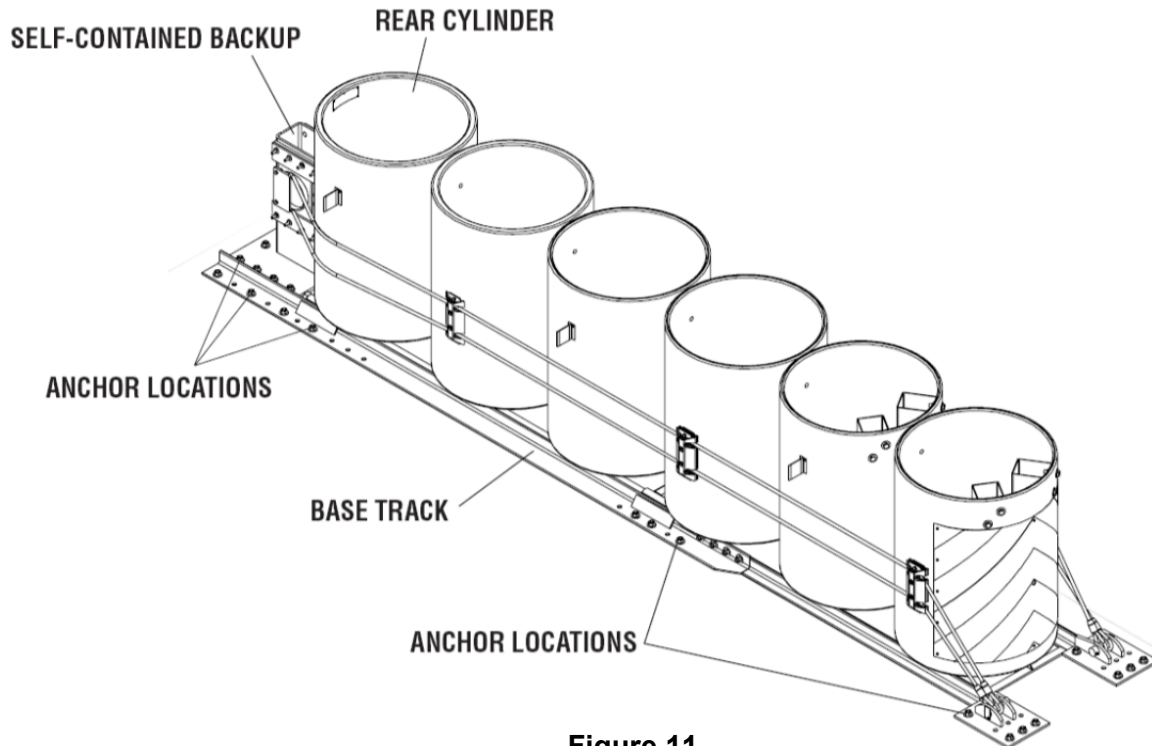

Figure 11
Use the holes in the base track as a template to locate and drill fifty-six (56) holes, 22 mm [7/8"] diameter x 140 mm [5 1/2"] deep into the concrete pad or roadway surface (see Figure 11). **All holes in base plate must be used to anchor the REACT 350® Narrow to the foundation.** Use the vertical MP-3® kits to assemble 3/4" diameter x 7" long studs using instructions included with kit. After grout is hardened, use 3/4" flat washers and nuts provided with kit to anchor base track to foundation.